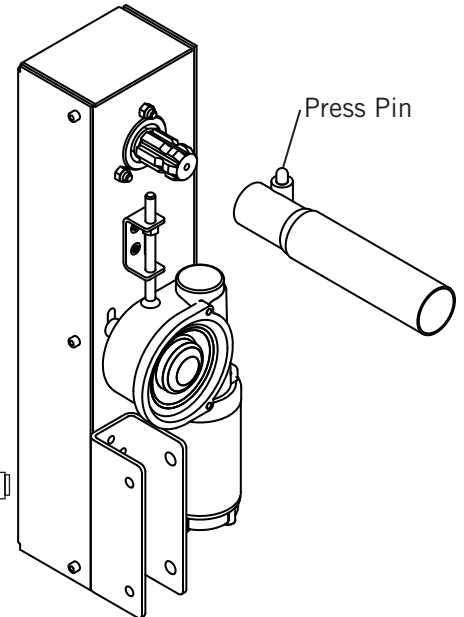

Figure 68
1) **See Figure 68 & 69.** Align the drive adapter with the shaft on the swing arm assembly. Press the pin and slide onto shaft. Release pin and adjust drive adapter until pin locks onto shaft.